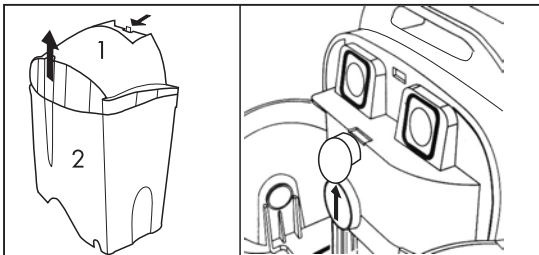

Fig. 12
- Remove the wastewater container (2) and the cover (1) from the appliance. Fig. 12
- Remove the blowing cap. Fig. 12 bis
Fig. 12 bis